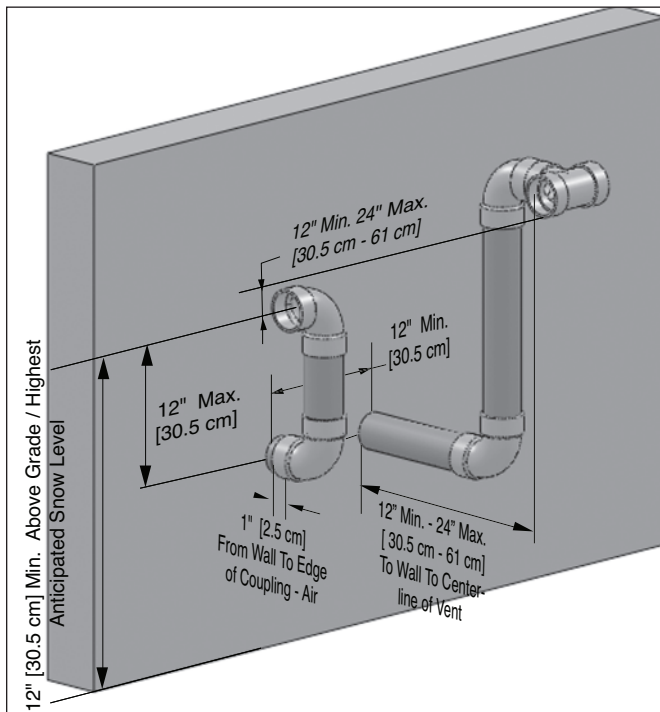
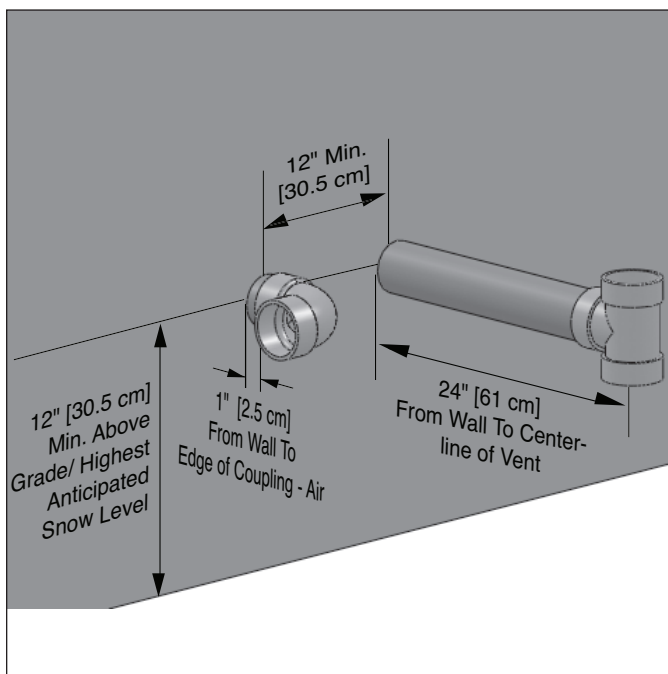
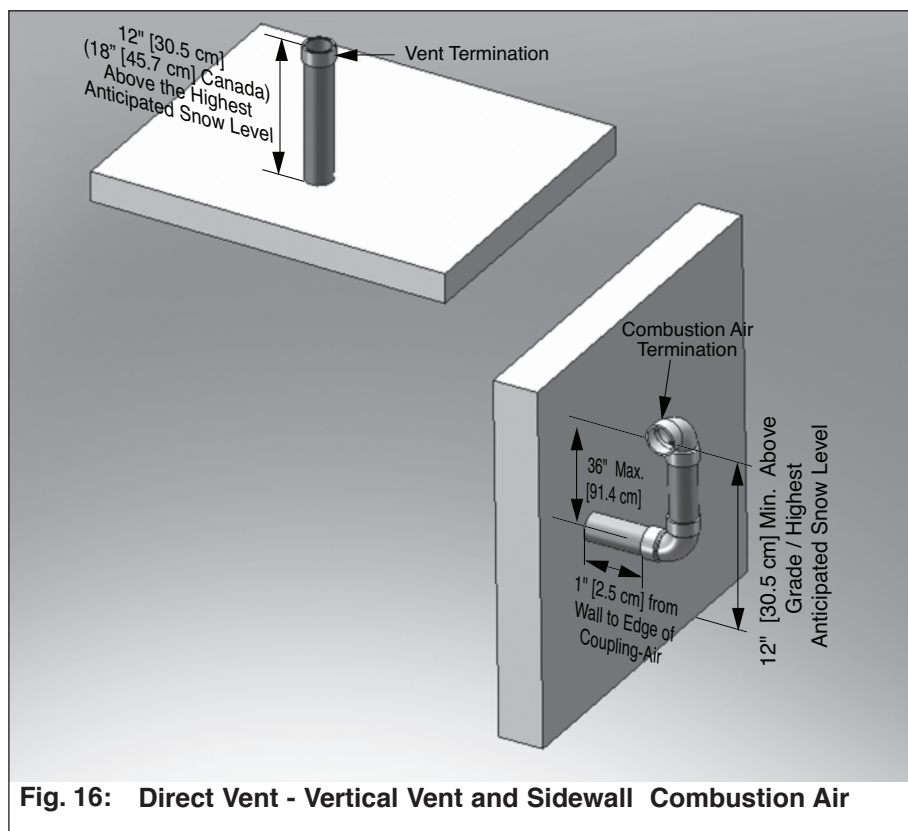

Fig. 8: Direct Vent - Sidewall Snorkel Termination of Vent and Combustion Air Piping with Tee Vent Termination
Fig. 10: Direct Vent - Sidewall Termination of Vent and Combustion Air Piping with Tee Vent Termination
Fig. 16: Direct Vent - Vertical Vent and Sidewall Combustion Air
To reduce the potential of the combustion air inlet freezing up it is recommended to separate the vent and air terminations in both a horizontal and vertical plain as shown in figures 8 and 9 on page 15.
2. The combustion air pipe must terminate using a 90° elbow directed away from the vent termination. The combustion air termination must be installed 12" [30.5 cm] minimum above grade / highest anticipated snow level and as shown in Figs. 8 through 11, page 15.
The combustion air termination can be placed on either side of the vent termination. The vent and combustion air terminations must be a minimum 12" [30.5 cm] apart. The vent and combustion air terminations are not required to be in the same pressure zone. The combustion air termination must be directed away from the vent see Figs. 8 through 11, page 15.
- Using a tee as shown in Figs. 8 or 10, page 15.
Do not extend the vent pipe outside the sidewall beyond the dimensions shown in Figs 8 through 11. Extended exposure of the vent pipe could cause condensate to freeze and block the vent pipe.
4. The combustion air and vent pipe center lines must be a minimum of 12" [30.5 cm] apart as shown in Figs. 8 through 11, page 15.
- g. A minimum of 12 inches [30.5 cm] or a maximum of 24" [61 cm] beyond the exterior wall when snorkled, see Figs 8 and 9, page 15 or 24" [61 cm] when vent and air terminate on the same horizontal plain, see Figs 10 and 11, page 15.
7. The edge of the combustion air termination coupling must extend 1" [2.5 cm] beyond the exterior wall as shown in Figs 8 through 11, page 15.
3. Locate the vent and combustion air pipe penetrations to provide clearances as described in Figs. 8 through 11 page 15.
2. The combustion air pipe must terminate using a 90° elbow as shown in Figs. 8 through 11, page 15.
- Using a tee as shown in Fig. 8 or 10, page 15.
Do not extend the vent pipe outside the sidewall beyond the dimensions shown in Figs. 8 through 11. Extended exposure of the vent pipe could cause condensate to freeze and block the vent pipe.
2. The combustion air piping must terminate with a 90° elbow. Fig. 16 shows a snorkel termination option. The combustion air pipe can also terminate using a 90° elbow directed to the left or right as shown in Fig. 10 page 15. The termination must be installed 12" [30.5 cm] minimum above grade / highest anticipated snow level and as shown in Fig. 10 page 15 or Fig. 16.
6. The edge of the combustion air termination coupling must extend 1" [2.5 cm] beyond the exterior wall as shown in Figs. 8 through 11 page 15.
2. The combustion air termination must be installed 12" [30.5 cm] minimum above grade / highest anticipated snow level and as shown in Fig. 10 page 15 or Fig. 16 page 20.
Do not extend the vent pipe above the roof beyond the dimension shown in Fig. 16 on page 20. Extended exposure of the vent pipe could cause condensate to freeze and block the vent pipe.